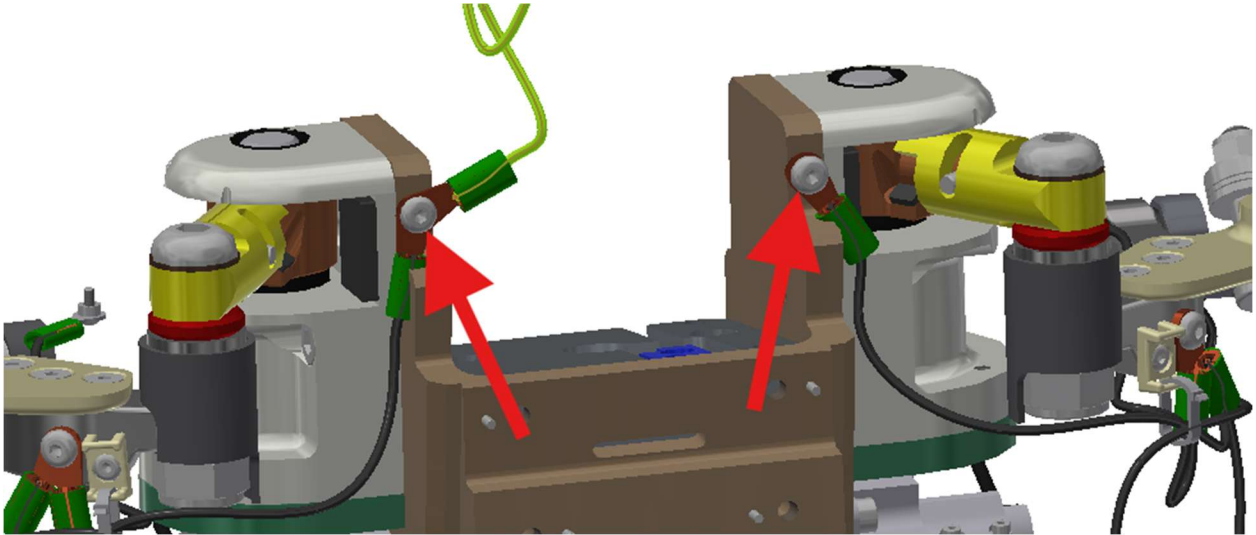

Figure 5-64. Attach ground cables
- 5.3.29 Attach ground cables to the front of the left shoulder assembly (474-3500-1-A) and right shoulder assembly (474-3500-1,2-A) (Figure 5-64).